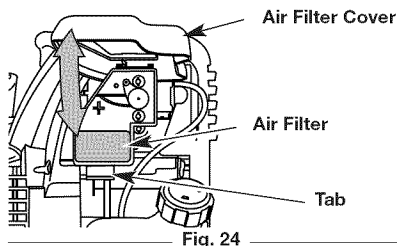

Fig. 24
- Open the air filter cover. Push the tab on the underside of the cover inward. Then pull the air filter cover out and up. (Fig. 24).
- Reinstall the air filter cover. Position the slots on the top of the air filter cover onto the tabs at the top of the back plate (Fig. 24).
- Swing the cover down until the tab on the air filter backplate snaps into place in the slot on the air filter cover (Fig. 24).